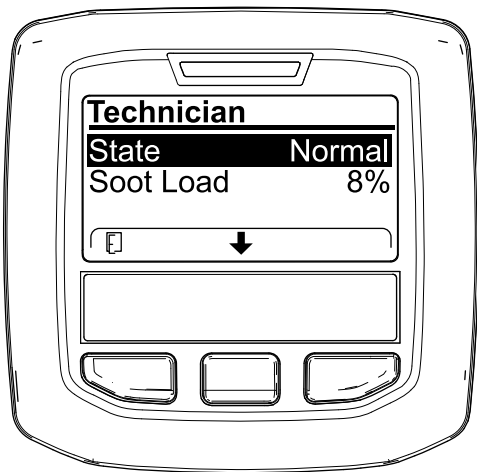

Figure 34
- Use the DPF operation table to understand the current state of DPF operation (Figure 34).